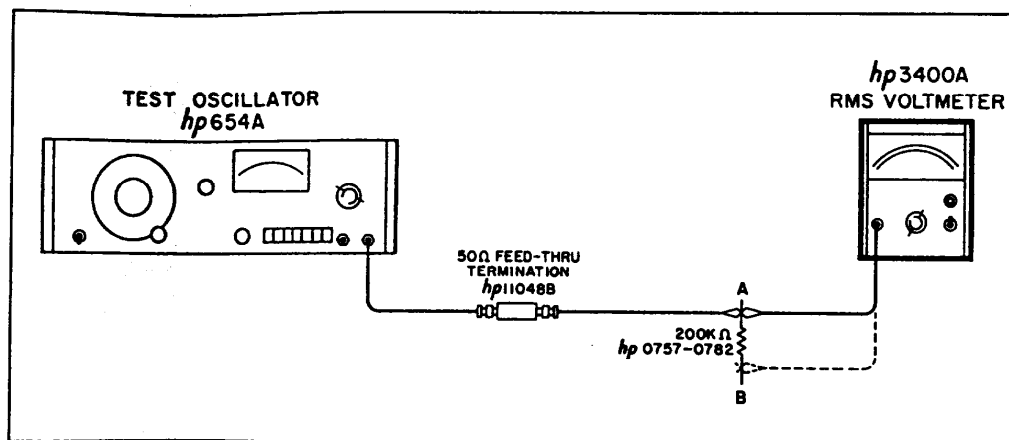

Figure 5-3. Input Impedance Test Setup
- a. Connect the Test Oscillator, 50 ohm feedthru and -hp- Model 3400A to position A in Figure 5-3.
- d. Connect Model 3400A to position B, as shown in Figure 5-3. The 3400A meter reading now should change less than or equal to .02 volts (2 minor divisions). 2 minor divisions corresponds to an input impedance of 10 megohms.
- a. Connect the Test Oscillator, 50 ohm feedthru termination, and the -hp- Model 3400A as shown in Figure 5-3. Make sure the 3400A is connected to position B, and NOT position A. Insert the resistor directly into the 3400A's input BNC and connect the other end to the feedthru termination. This minimizes the effect of any external capacitance.